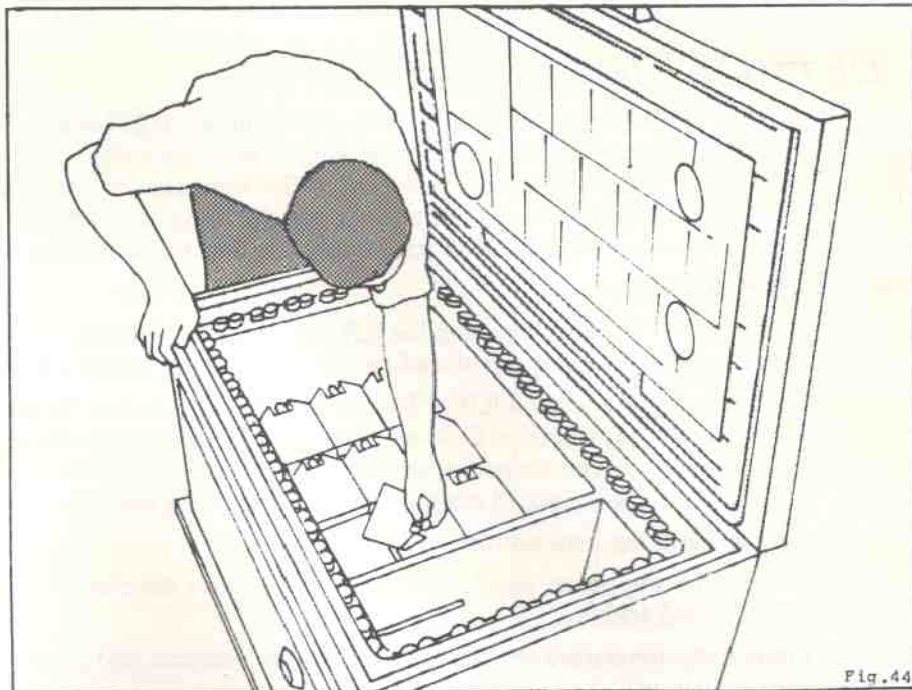

Fig.40
3. Examine the display plate on the lid. If it displays 'Refrigerator' function, slide it out from its frame reverse and put it back to display 'Freezer' function (fig. 40).